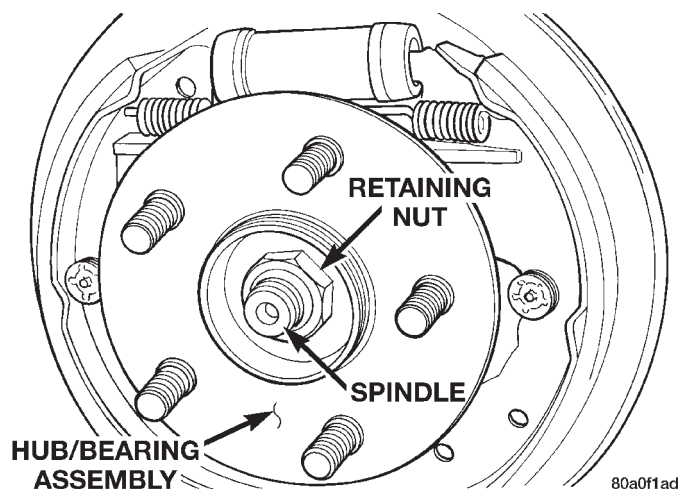

**Fig. 73 Hub And Bearing Retaining Nut**
(4) Remove the rear hub and bearing assembly retaining nut (Fig. 73). Then remove the hub and bearing assembly from the rear knuckle.
(1) Install the gasket and brake support plate on rear suspension knuckle. Torque the brake support plate to knuckle attaching bolts to 75 N·m (55 ft. lbs.).
(2) Insert parking brake cable end fitting into brake support plate.
(3) Hand start hydraulic brake hose tube fitting to wheel cylinder. Tighten tube nut to a torque of 17 N·m (145 in. lbs.).
(4) Install rear brake shoe assemblies on the brake support plate. Refer to Rear Brake Shoes in the Removal And Installation Section in this group of the service manual for the proper brake shoe assembly installation procedure.
(5) Install rear hub and bearing assembly on rear knuckle. Install a **NEW** hub and bearing assembly retaining nut (Fig. 73). Tighten the hub and bearing assembly retaining nut to a torque of 250 N·m (185 ft. lbs.). Install dust cap.
(6) Adjust brake shoes assemblies so as not to interfere with brake drum installation.
(7) Install brake drum on rear hub/bearing assembly.
(8) Bleed the vehicle's base brakes hydraulic system.
(9) After brake drums are installed, pump brake pedal several times to do final adjustment of the brake shoe assemblies.
(10) Install the wheel and tire assembly. Tighten the wheel mounting stud nuts in proper sequence until all nuts are torqued to half specification. Then repeat the tightening sequence to the full specified torque of 129 N·m (95 ft. lbs.).